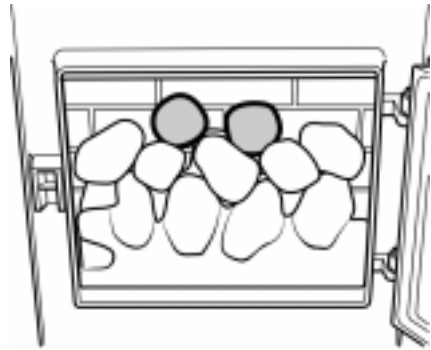

Figure 11
9. Locate the two ceramic coals identified with a number '3' as in figure 11.